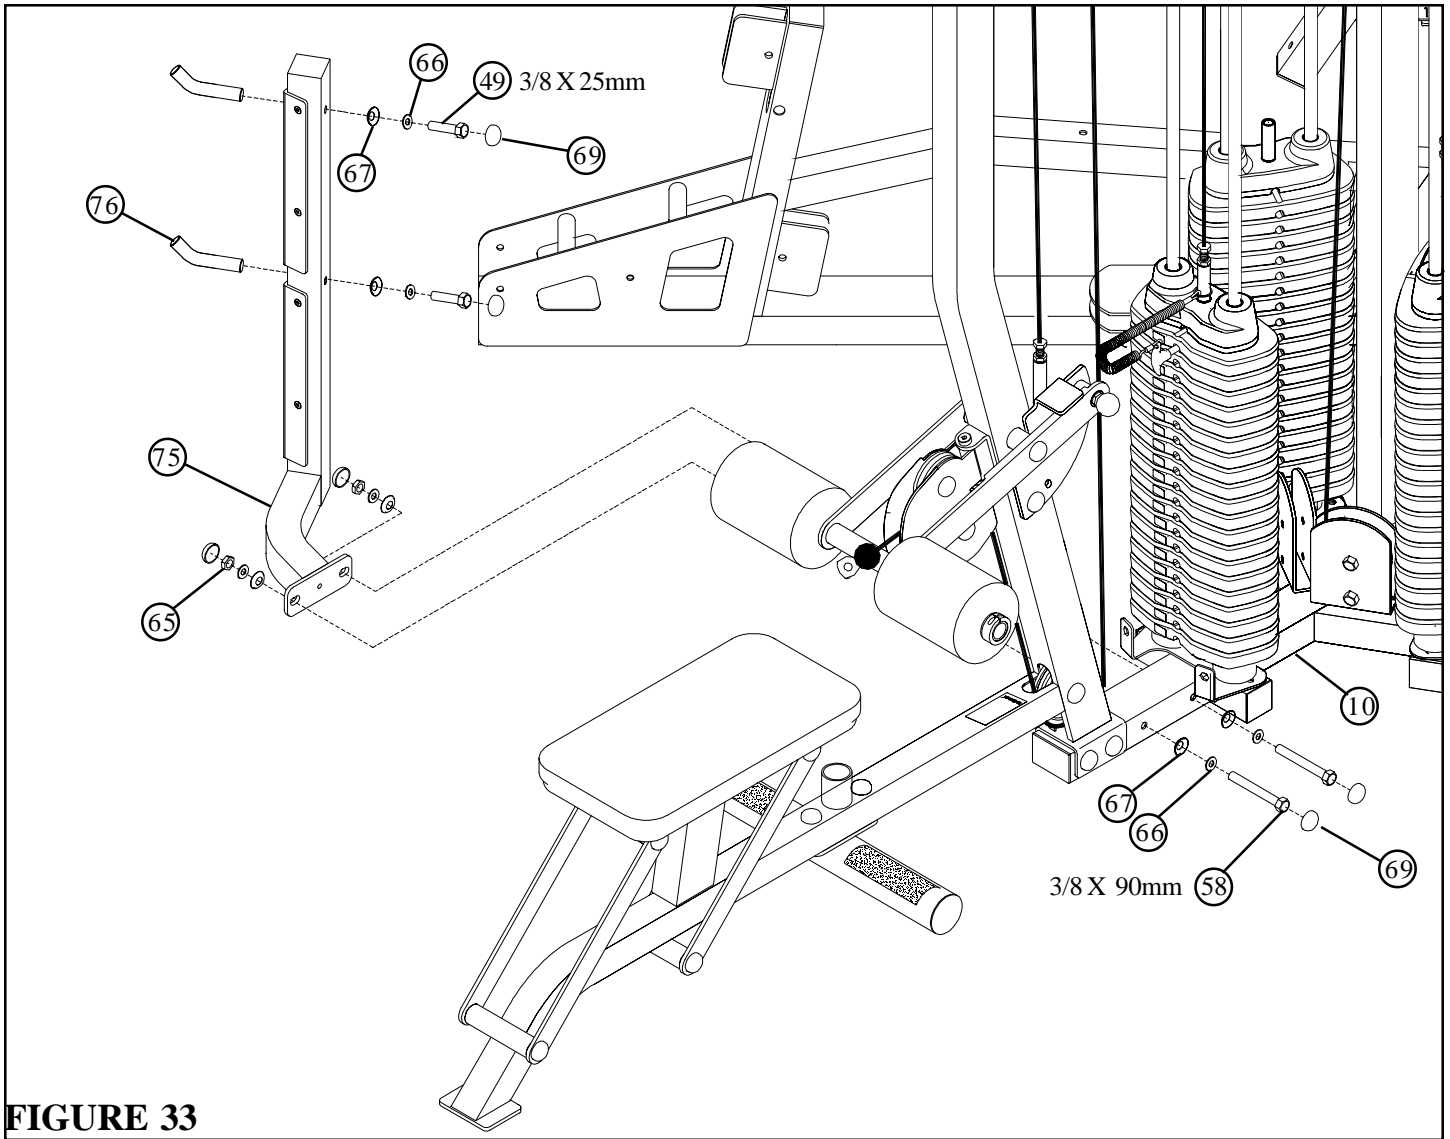

FIGURE 33
- **SECURELY** assemble the STORAGE UPRIGHT (75) to the TOWER BASE (10) using four RH CAPS (69), two 3/8 X 90mm BOLTS (58), four 3/8" SAE WASHERS (66), four 3/8" RH WASHERS (67) and two 3/8" LOW HEIGHT LOCK NUTS (65) as shown in FIGURE 33.
- **SECURELY** assemble the STORAGE PEGS (76) to the STORAGE UPRIGHT (75) using two RH CAPS (69), two 3/8 X 25mm BOLTS (49), two 3/8" SAE WASHERS (66) and two 3/8" RH WASHERS (67) as shown in FIGURE 33.